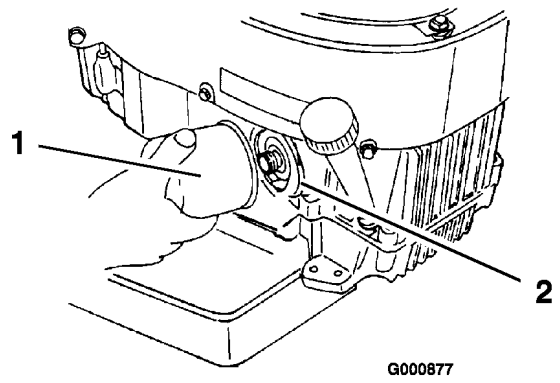

Figure 27
2. Remove the old filter (Figure 27).
4. Install the replacement oil filter to the adapter. Turn the oil filter clockwise until the rubber gasket contacts the filter adapter, then tighten the filter an additional 3/4 turn (Figure 27).